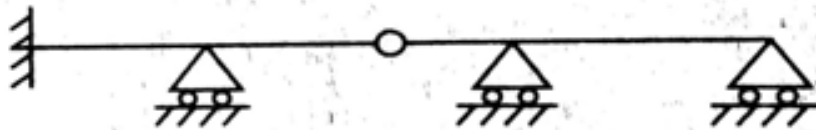

Figure 4
3. (a) Determine the degree of static and kinematic indeterminacies of the beam shown in Figure 4. [6 M]